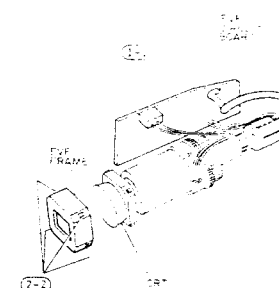

Fig. 2-123
- 1) Disconnect one (1) connector (CN801) on the EVF circuit board and CRT socket. (See Fig. 2-123)
- 2) Release four (4) tabs of the CRT frame and remove the CRT frame from the CRT. (See Fig. 2-123)